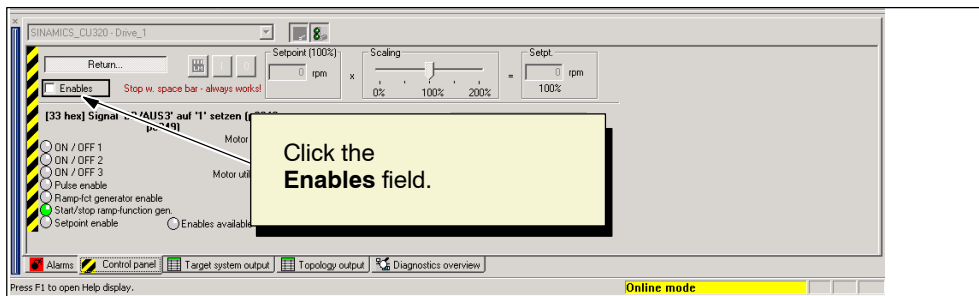

Fig. 4-9 Enables
5. As shown in Fig. 4-9, click the **Enables** field to set the commands for enabling the control words in the drive system.